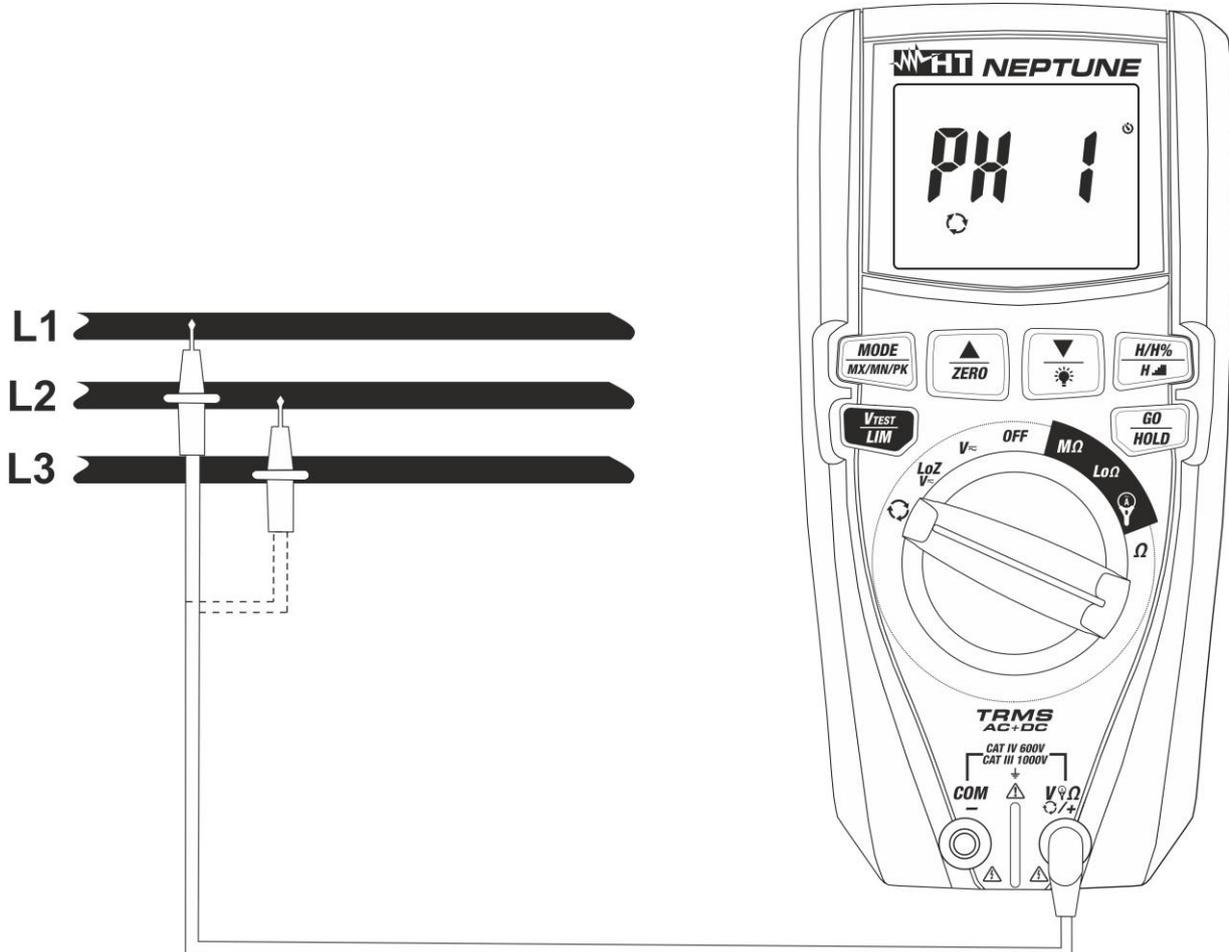
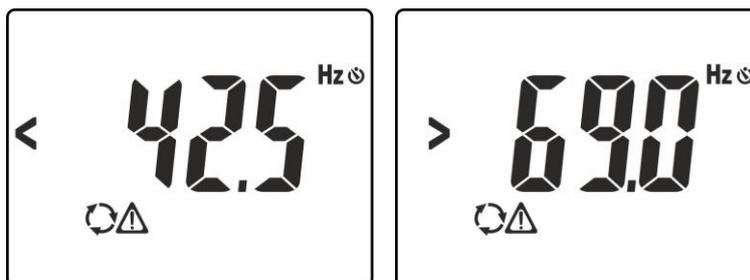
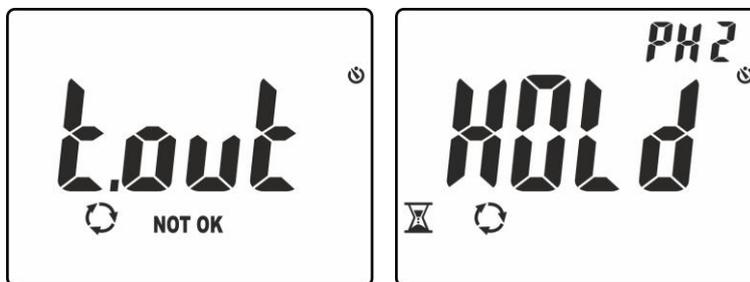

Fig. 10: Use of the instrument for phase sequence and phase concordance test
Fig. 11: Signal of voltage with wrong frequency
Fig. 13: Detecting phase L1 and waiting for phase L2
3. Position the red lead onto phase **L1** of the three-phase system to be tested (see Fig. 10). The following messages may appear on the display (see Fig. 11) to identify the presence of a voltage signal with frequency out of range **42.5Hz ÷ 69Hz**. In these conditions, the instrument does not perform the test.
6. Position the red lead onto phase **L2** of the three-phase system to be tested (see Fig. 10). In case passage between phase L1 and phase L2 takes more than **10s**, the instrument shows message “**t.out**” on the display (see Fig. 13 – left side). In conditions of correct voltage and frequency, the instrument shows message “**HOLD**”, symbols ⏸ and “PH2” and the buzzer sounds continuously, waiting for a stable voltage value on phase L2 to be detected (see Fig. 13 – right side).